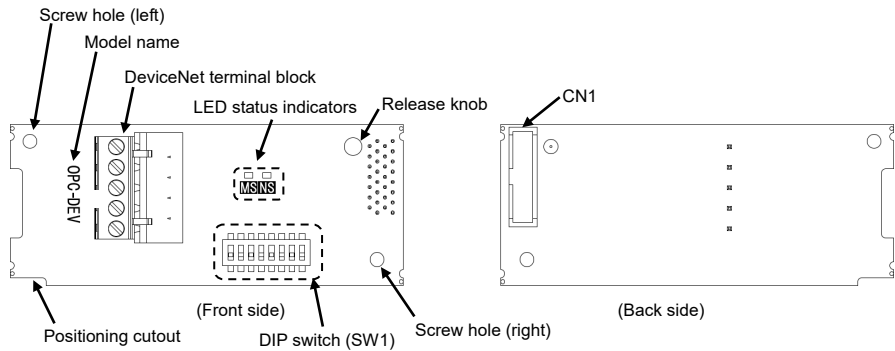

Figure 2.1 Names of Parts on DeviceNet Communications Card (OPC-DEV)
- (1) A communications card, two screws (M3 × 8), and the DeviceNet Communications Card Instruction Manual (this manual) are contained in the package.
- (2) The communications card is not damaged during transportation--no defective parts, dents or warps.
- (3) The model name "OPC-DEV" is printed on the communications card. (See Figure 2.1.)
Figure 2.1 shows the names of the parts on the DeviceNet communications card.
- (2) Insert connector CN1 on the back of the communications card (Figure 2.1) into the option connection ports on the inverter's control PCB. Then tighten the two screws that come with the card. (Figure 3.)
Note Check that the positioning cutout (shown in Figure 2.1) is fitted on the tab (① in Figure 3.2) and connector CN1 is fully inserted (② in Figure 3.2). Figure 3.3 shows the communications card correctly mounted.